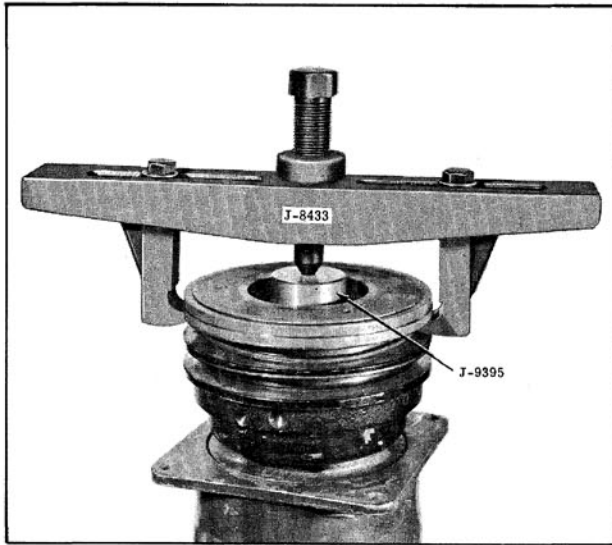

Fig. 14-82 Removing Pulley and Drive Plate
2. Insert Pilot J-9395 over shaft then remove pulley with Puller J-8433. (Fig. 14-82)